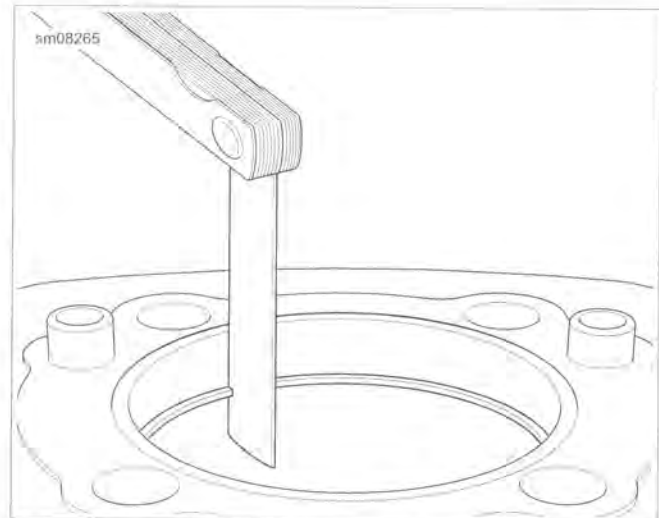

Figure 3-57. Measuring Ring Gap
1. See Figure 3-57. Check end gap of each ring before placing on the piston.